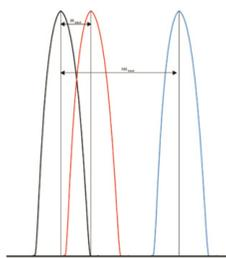

Figure 1. Limits of Detection and Quantitation
- **Limit of quantitation (LOQ)**: lower limit of a method or system between which the target can be reasonably calculated where two distinct values between the target and blank can be observed (usually over ten standard deviations from the blank response) (6-AOAC). (Figure 1).